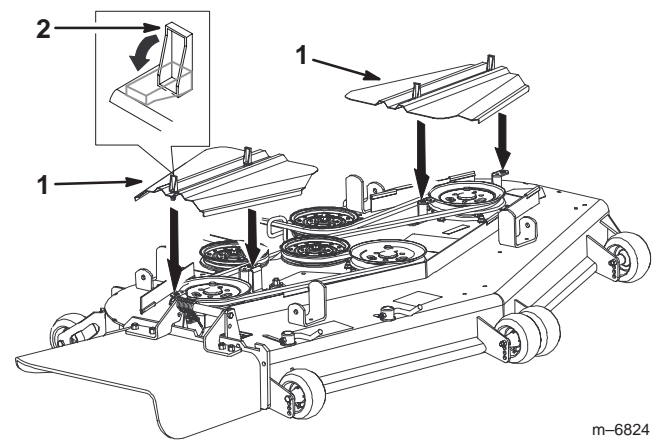

Figure 71
3. Remove the belt covers (Fig. 71).
10. Install the belt covers and close the latches (Fig. 71).